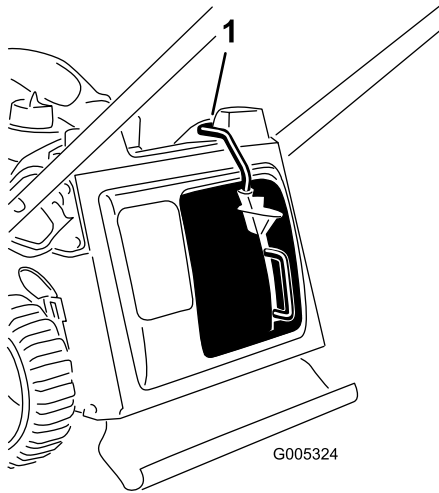

Figure 26
**Important:** The machine has a safety switch that prevents you from starting the machine unless you first install the recycle plug securely on the machine (Figure 26).